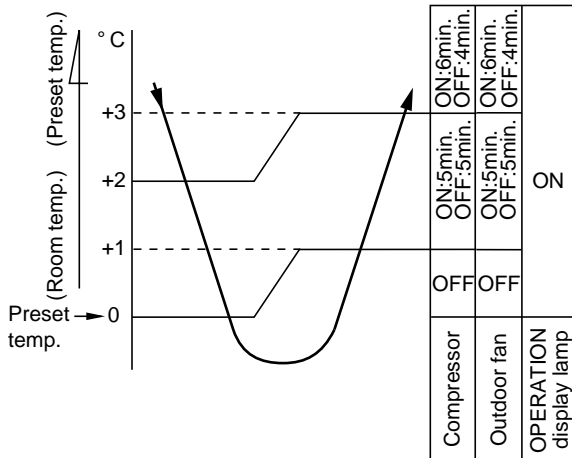

Fig. 7-3-4
- (1) The compressor, outdoor fan and operation display lamp are controlled as shown in Fig. 7-3-4.